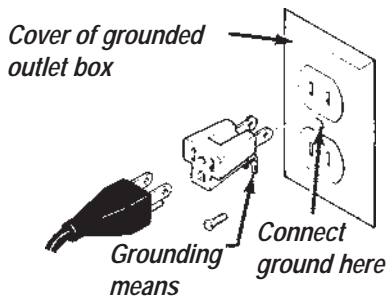

Figure A-2
- If you have a two-hole receptacle, use a **temporary** adapter to plug in the MARK 4 [Shorty], as illustrated in Figure A-2. The grounding lug or wire on the adaptor **MUST** be connected to a permanent ground such as a grounded outlet box. The temporary adapter should be used only **until** a properly grounded outlet can be installed. **(Adapters are not allowed in Canada.)**